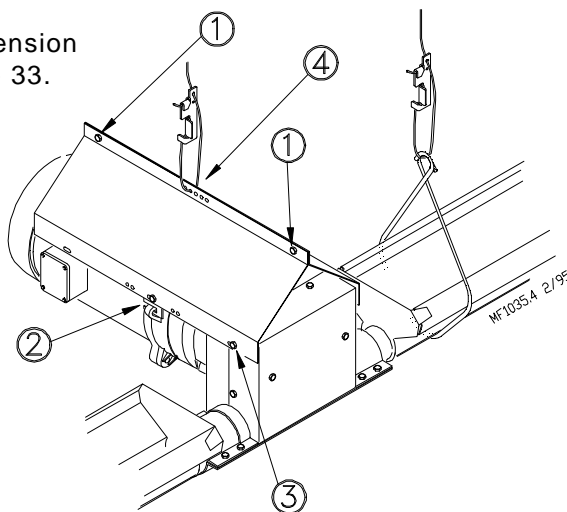

Figure 33. Litter Shield Installation
4. Secure the Litter Shield to the Driver Assembly using the screws removed in Step 2. See Figure 33.
6. Install the power unit suspension components as shown in Figure 33.